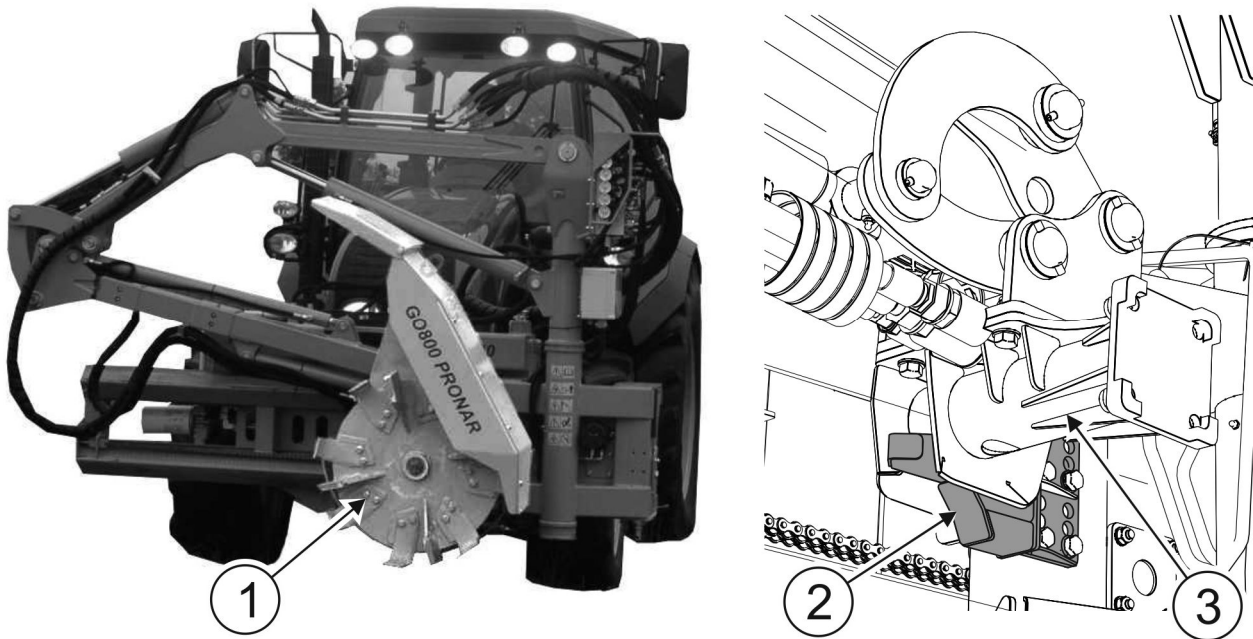

FIGURE 4.3 Transport position
For transport to place of work and back, raise the ditch digger and mount it on hitch (2) of multifunction arm head (3) (FIGURE 4.3).